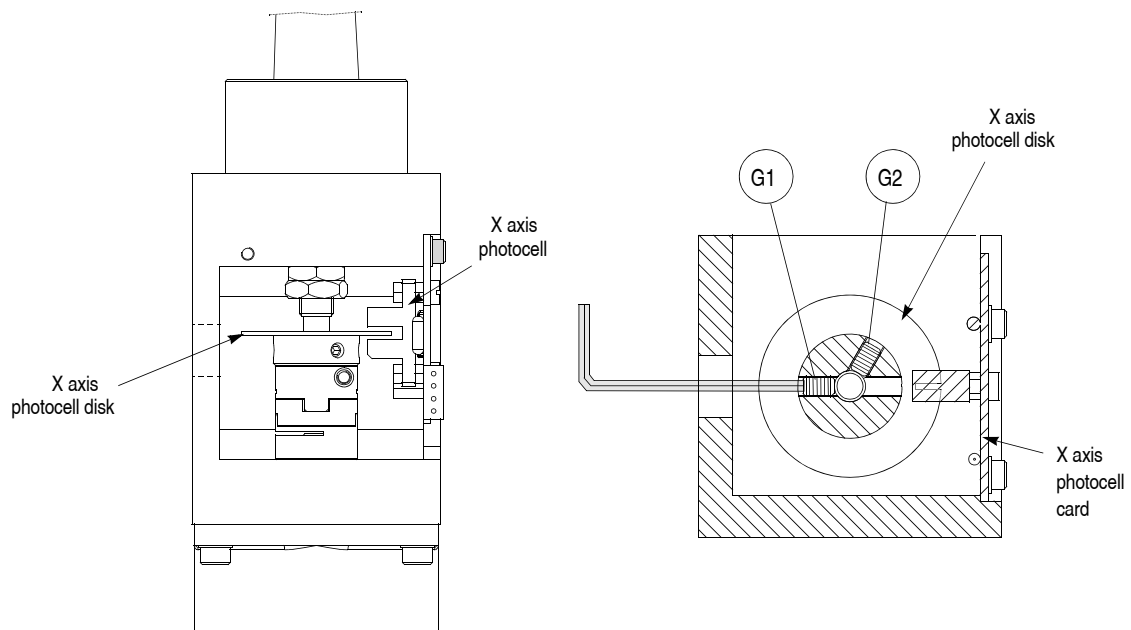

Fig. 34
- 3) loosen the (G1) and (G2) grub screws that secure the X axis photocell disk (fig. 34).
- manually turn the X axis disk (fig. 34) up until the display's description changes from OFF to ON.
- use the provided allen key to tighten the (G1) grub screw (fig. 34).